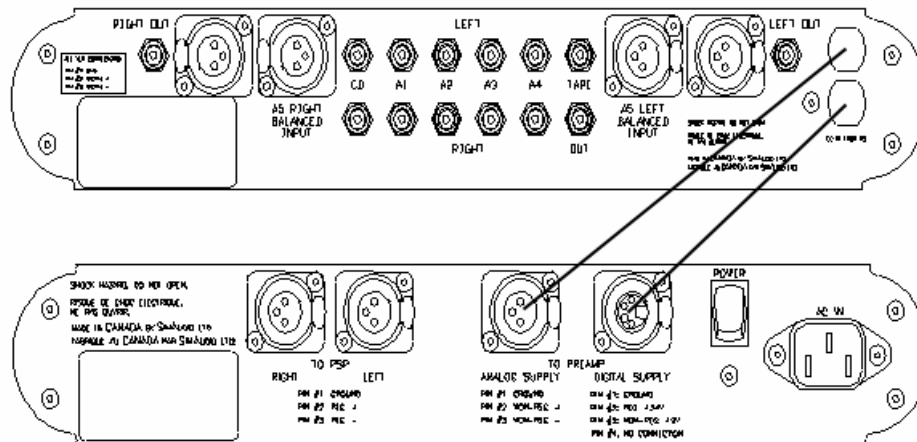

Figure 3: Connecting the Moon P-5 (top) to the PS-5 Power Supply (bottom)
1. There are two connections that must be made between the **P-5** preamplifier and its separate **PS-5** power supply as shown above in Figure 3; One for digital controller circuitry and one for the analog audio circuitry. These cables are hard-wired directly to the **P-5** and must be connected to the **PS-5** via the XLR terminated connectors. To avoid any confusion, the “Analog Power Supply” uses a 3-pin connector (black colored shield) and the “Digital Power Supply” uses a 4-pin connector (silver colored shield). You will notice two additional XLR sockets on the left side of the **PS-5** labeled “TO PSP”; These are to be used ONLY with the **optional MOON PSP** Phono Section.